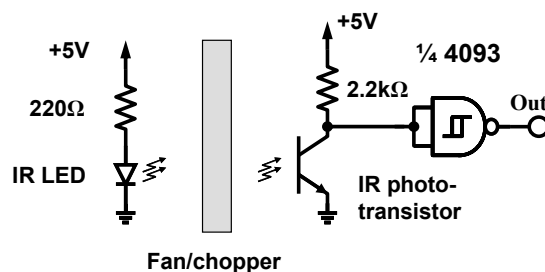

Figure 7-6 – Chopper circuit for generating a pulse train at a frequency proportional to the fan speed.
For example, in the fan speed control circuit we constructed in Lab #5 it might be nice to monitor the fan speed directly. To use our counter we just need a digital pulse train that is proportional to the fan speed. One way to do this is shown in Figure 7-6, which uses an LED-phototransistor combination. The LED generates a small beam of light that is directed at the fan blade. The phototransistor on the opposite side is sensitive to this light beam, such that when the light strikes the phototransistor, it conducts. As the fan rotates, the blade periodically interrupts the light beam, turning off the phototransistor. Thus the phototransistor stage acts like a simple light-sensitive switch. By coupling this to a spare inverter, we can generate a nice CMOS-compatible pulse train to drive our counter.
- Build the circuit of Figure 7-6, adding these components to your fan speed control circuit of lab #5. Consult the datasheets for the infrared LED and phototransistor devices. Bend the leads of the LED and phototransistor so that the plastic lenses of each face each other through an opening in the fan housing. The devices should be aligned and positioned such that the blades of the fan block the path of the light as they rotate.